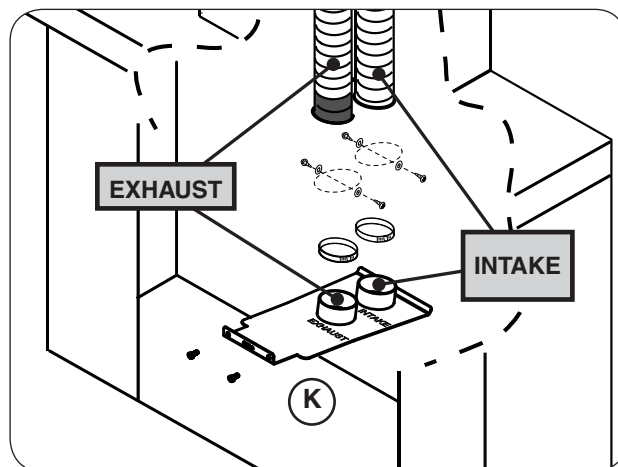

Fig. 25-2 Install vent adapter
11. Remove any excess slack in the pipes. Then attach the pipes to the vent adapter using only the four provided #10 x $\frac{3}{4}$ " screws, flat washers, and a Phillips screwdriver. Further secure with the supplied pipe clamps. See Fig. 25-2, K.
Important: Ensure the marked / up arrow pipe is connected to the exhaust port on the insert. The vent adapter is permanently marked, see Fig. 25-2.